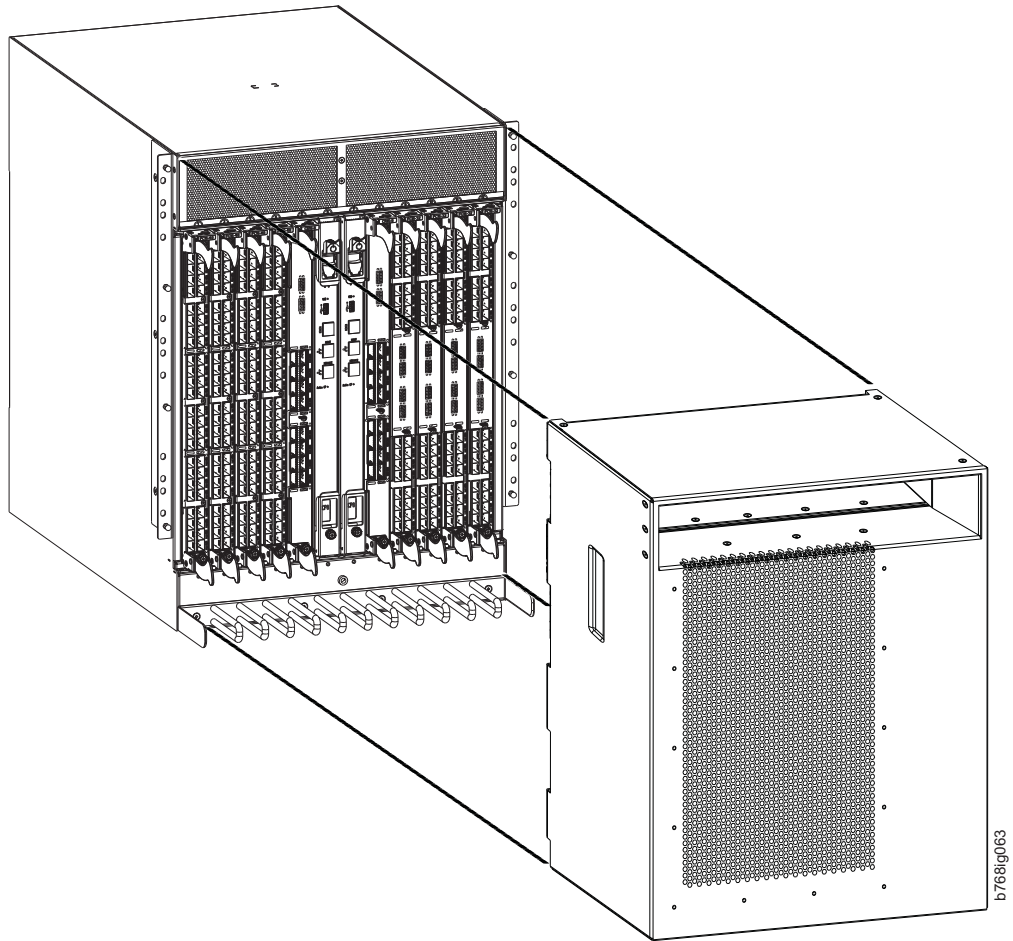

Figure 31. Chassis door
2. Pull and remove the door. It will pop off the ball studs (see Figure 31 on page 82).
1. Align the holes in the back side of the door with the ball studs on the chassis. See Figure 31.